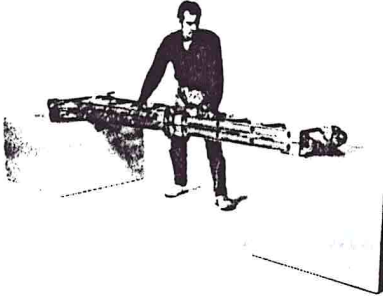

FIGURE 1.
- 2) Position ladder on two sturdy supports as shown in figure 1.